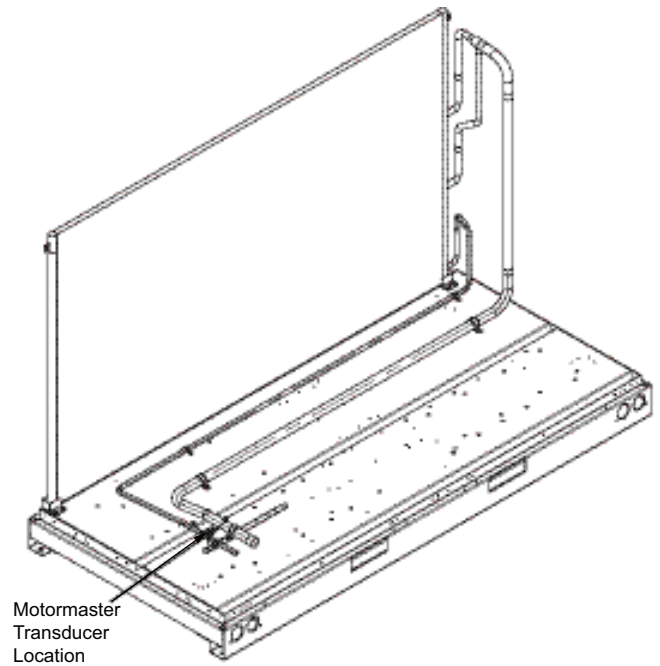
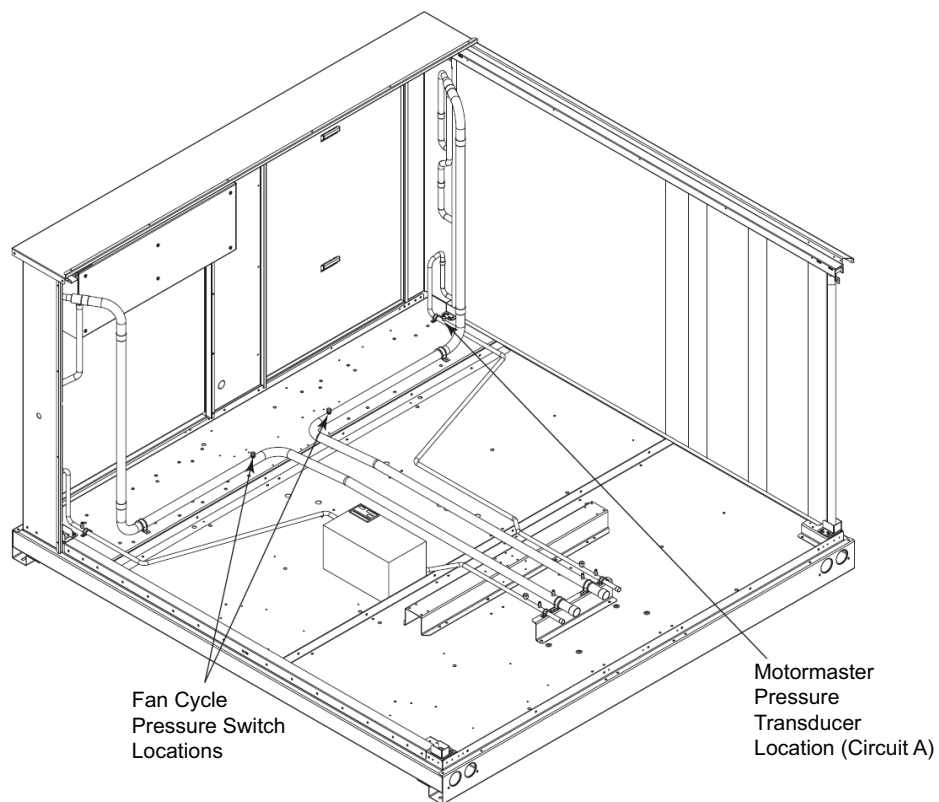

Fig. 38 — Motormaster Pressure Transducer Location — 09DP 018-030 Units
Fig. 39 — Motormaster Pressure Transducer Location — 09DP 035-060 Units
- e. Mount fan relay (FR) assembly (Items 500 and 501) on DIN rail (item 714) next to fuse block 1 (FB1) (Item 400).
- g. Install Motormaster pressure transducer (MMPT-A) (Item 711) on liquid line per Fig. 38 for 09DP 018-030 and Fig. 39 for 09DP 035-060.